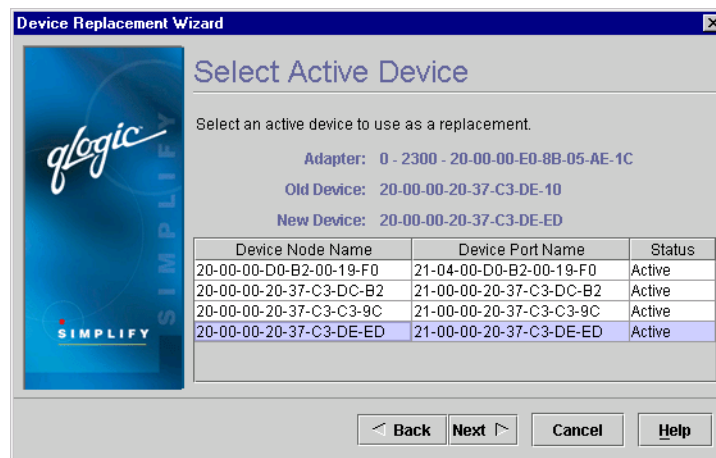

Figure 7-18. Select Active Device Dialog Box
5. If you clicked **Next**, the **Select Active Device** dialog box displays (see figure 7-18).